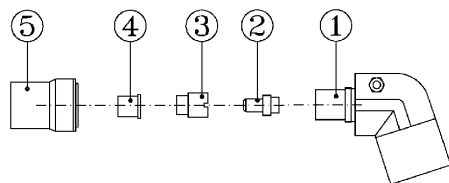

Fig.1 Torch body assembly
- 2) Check that all the parts of the torch are working. For the various parts that make up the torch body (Fig.1), the sequence of correct assembly is 1-2-3-4-5.